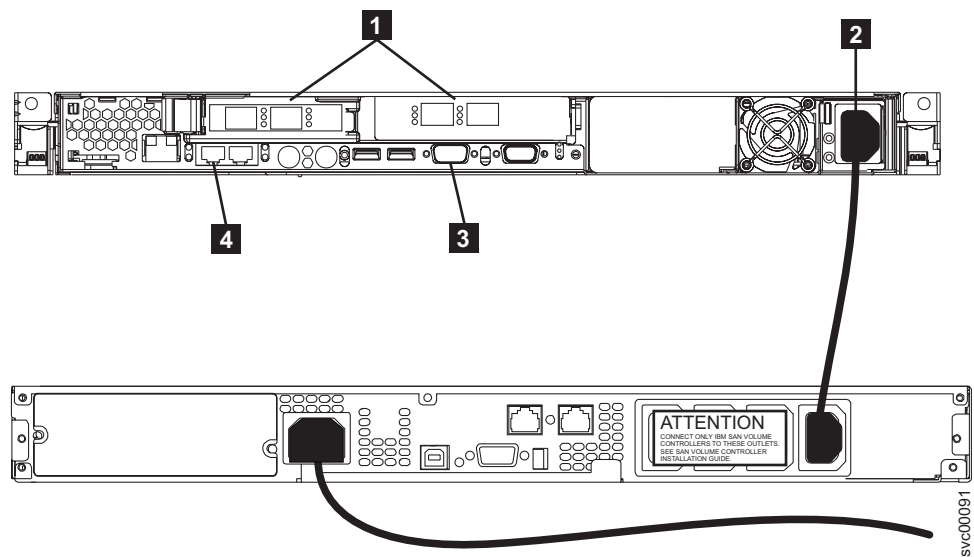

Figure 1. Power cable and signal sockets for the SAN Volume Controller 2145-8F2 and 2145 UPS-1U
2. Ensure that the power cable **2** is plugged into the load segment receptacle of the 2145 UPS-1U. Also, ensure that the other end of the 2145 UPS-1U's power cable is connected from the 2145 UPS-1U to the distribution point in the rack. Figure 1 shows the connectors for the SAN Volume Controller 2145-8F2 and the 2145 UPS-1U.